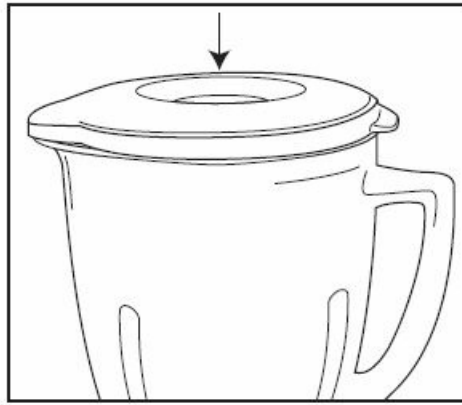

FIGURE 7
- Do not remove the Blender Lid while in use. Remove Filler Cap smaller ingredients. (Figure 7)